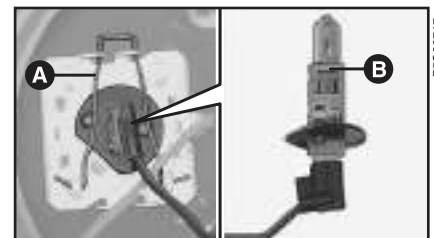

fig. 13
2) Unhook retaining springlet **A**-fig. 13 and pull bulb **B** out.